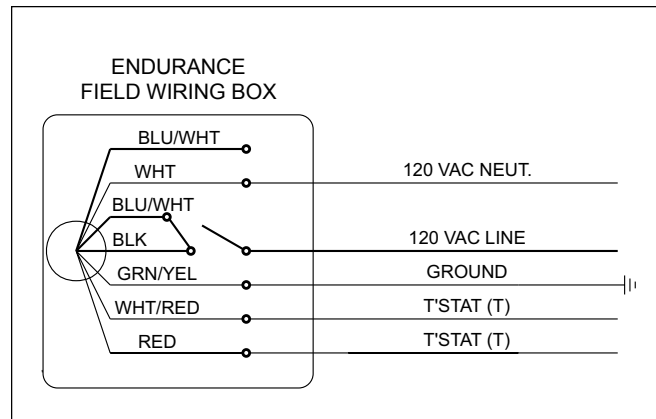

Figure 24. Single Zone With Room Thermostat (internal pump provides system flow).
1. Main power: Connect a fused 120 volt supply (15 amp) to the main power switch (see Figure 24) (hot leg is connected directly to switch). Neutral leg to white wire. Ground wire can be connected to the grounding screw in the box or on the switch.